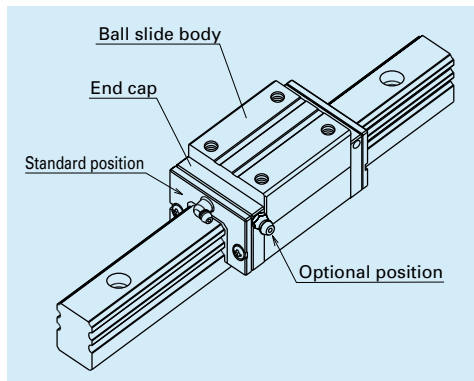

Fig. 11 Mounting position of lubrication accessories
(2) Mounting position of lubrication accessories
- The standard position of grease fittings is the end face of ball slide. We mount them on a side of end cap for an option. (**Fig. 11**).